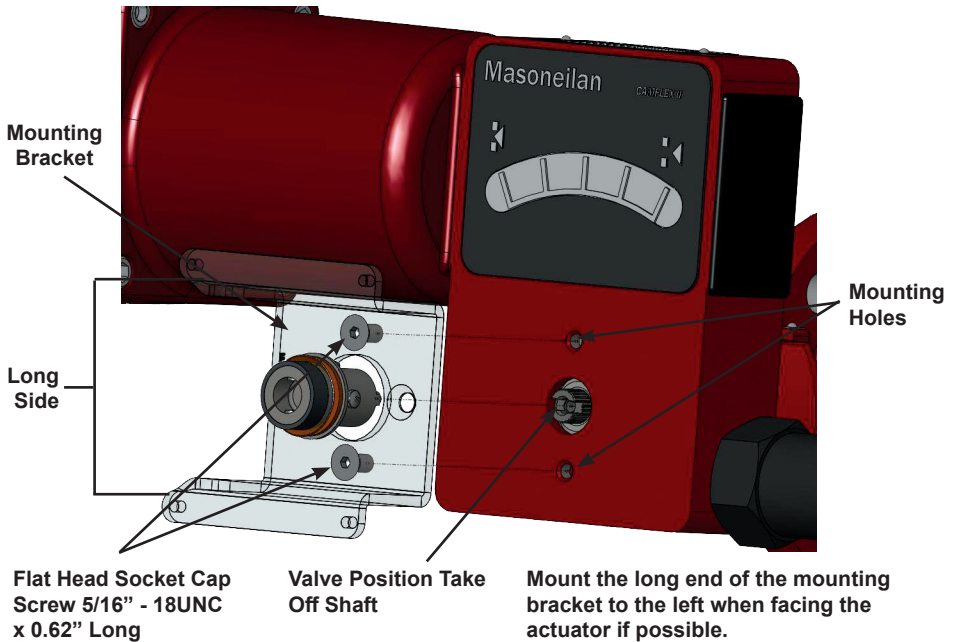

Figure 9 - Rotary Mounting Bracket to Valve Actuator
1. Attach the mounting bracket to actuator (Figure 9).